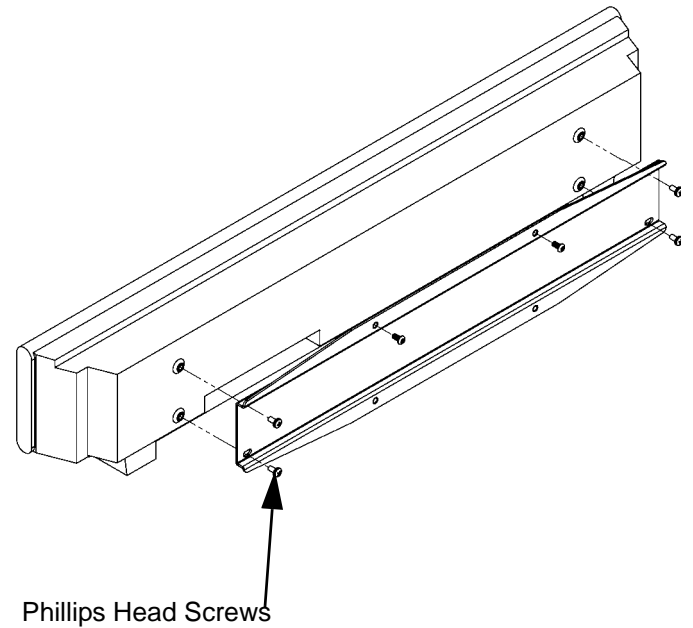

Figure 6. Install Speaker Bracket
1. Using four Phillips head screws (150), attach speaker bracket (50) to speaker (see Figure 6).